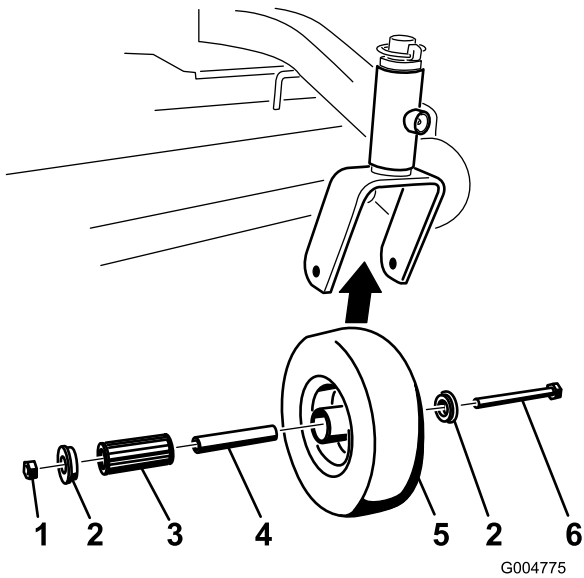

Figure 34
1. Remove the locknut and wheel bolt holding the caster wheel to the caster fork (Figure 34).
2. Remove one bushing, then pull the spanner bushing and roller bearing out of the wheel hub (Figure 34).
3. Remove the other bushing from the wheel hub and clean any grease and dirt from the wheel hub (Figure 34).
4. Inspect the roller bearing, bushings, spanner bushing and inside of the wheel hub for wear. Replace any defective or worn parts (Figure 34).
5. To assemble, place one bushing into the wheel hub. Grease the roller bearing and spanner bushing and slide them into the wheel hub. Place the second bushing into the wheel hub (Figure 34).
6. Install the caster wheel into the caster fork and secure with the wheel bolt and locknut. Tighten the locknut until the spanner bushing bottoms against the inside of the caster forks (Figure 34).